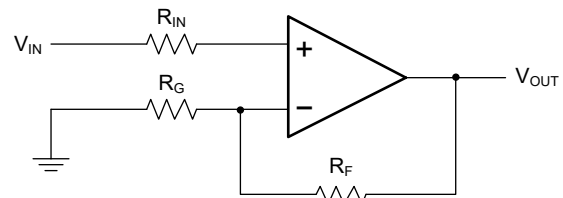
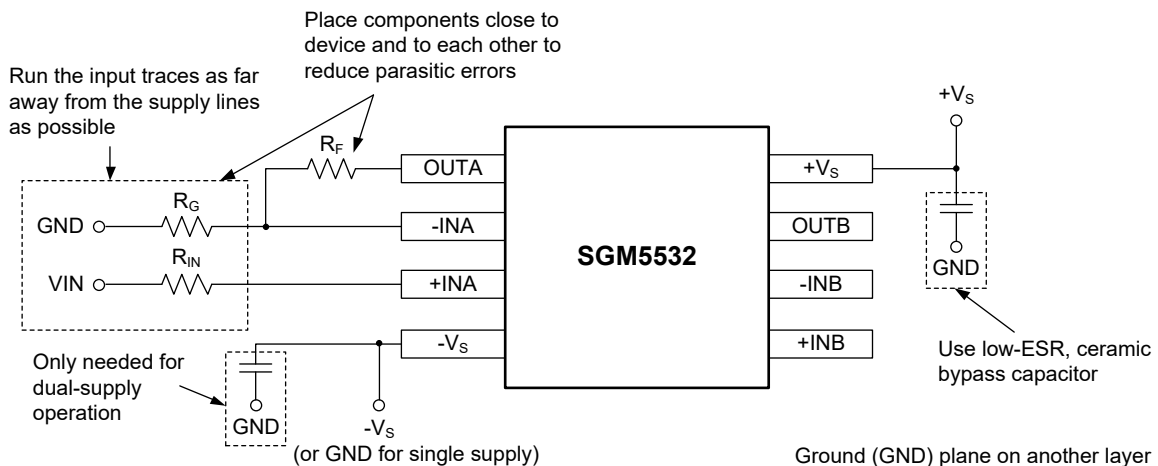

Figure 3. Operational Amplifier Schematic for Non-Inverting Configuration
Figure 4. Operational Amplifier Board Layout for Non-Inverting Configuration
- Place the external components as close to the device as possible. Keeping R_F and R_G close to the inverting input minimizes parasitic capacitance, as shown in Figure 3 and Figure 4.